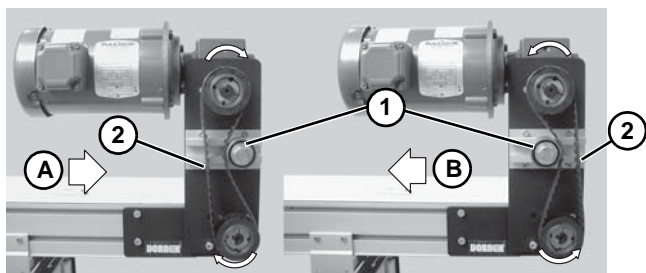

Figure 12
9. Depending on conveyor belt travel (direction A or B), locate timing belt tensioner (**Figure 12, item 1**) as shown. Tension timing belt to obtain 1/8" (3 mm) deflection for 6 lb (3 Kg) of force at timing belt mid-point (**Figure 12, item 2**). Tighten tensioner screw to 110 in-lb (12 Nm).
3. Depending on conveyor belt travel (direction A or B), locate timing belt tensioner (**Figure 12, item 1**) as shown. Tension timing belt to obtain 1/8" (3 mm) deflection for 6 lb (3 Kg) of force at timing belt mid-point (**Figure 12, item 2**). Tighten tensioner screw to 110 in-lb (12 Nm).
5. Depending on conveyor belt travel (direction A or B), locate timing belt tensioner (**Figure 12, item 1**) as shown. Tension timing belt to obtain 1/8" (3 mm) deflection for 6 lb (3 Kg) of force at timing belt mid-point (**Figure 12, item 2**). Tighten tensioner screw to 110 in-lb (12 Nm).